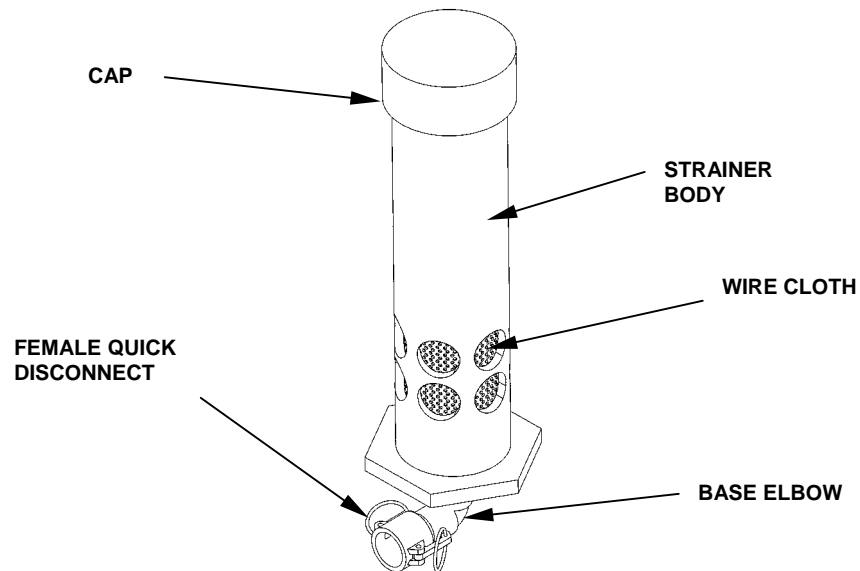

Figure 2. Settling Tank Strainer Assembly.
2. Ensure that the filtrate tank on the UF module is full. Remove strainer assembly from the settling tank. See Figure 2.
5. Connect the hose to the female quick disconnect of the settling tank strainer. See figure 2).